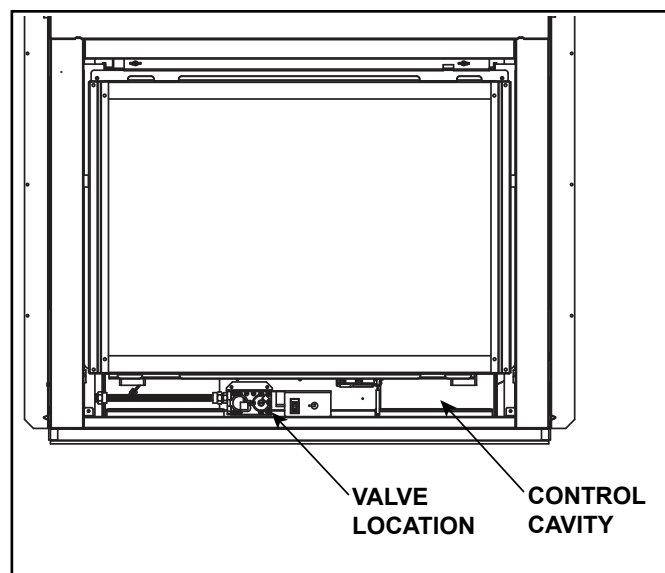

Figure 3.5 Control Cavity/Valve Location
The SL-5F and SL-7F models have a variable burn rate which is controlled by the HI/LO knob on the gas valve. Therefore the flame height is adjustable. The HI/LO knob is shown in Figure 3.5. It is located in the control cavity of the appliance. The HI/LO knob may be adjusted as desired by turning counterclockwise to the HIGH position and by turning clockwise to the LO position.
1. Access the control cavity of the appliance. See Figure 3.5 for location. The decorative front may need to be removed.
2. Locate the battery tray in the control cavity and insert two D cell batteries. Battery polarity must be correct or module damage will occur. See Figure 3.5. A complete wiring diagram is included in the Electrical section of the appliance Installation Manual.